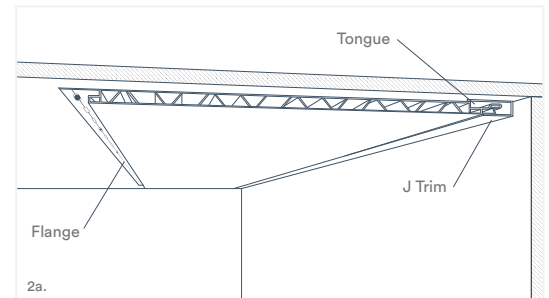

Fig. 7
2. Cut the length of the first panel for the first course. Position the panel so the screw flange is pointing away from the wall (Fig. 7). Ensure the panel is parallel to the outside wall before fastening.